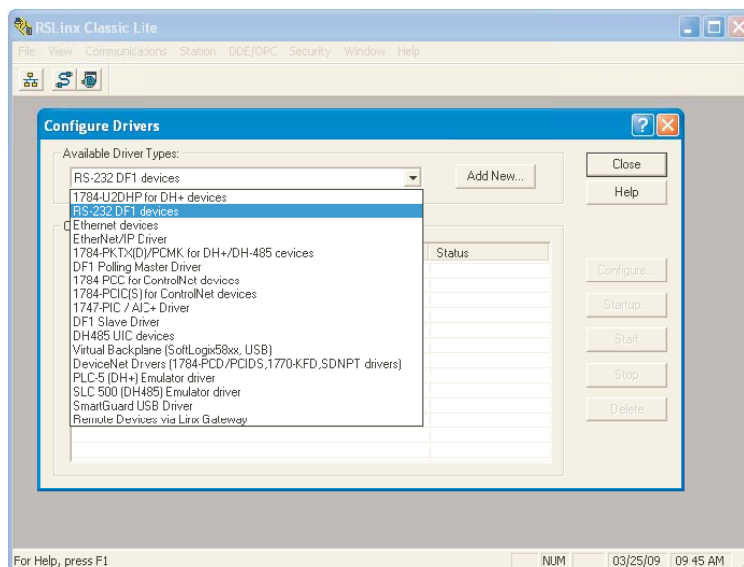

Figure 4.3.21d Configure drivers.
2. Click on 'Communications' and select 'Configure Drivers'. When the 'Configure Drivers' window opens, select 'RS232 DF1 devices' in the 'Available Drive Types' pull down menu (figure 4.3.21d).